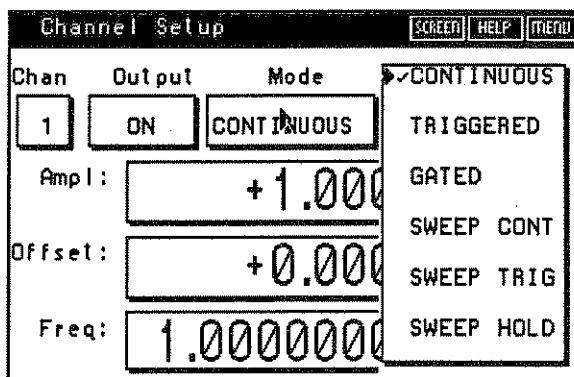

Figure 2-17. Change Modes
8. **Mode Check.** Connect the Arb Channel to the scope as described in step 3. To change the unit's operating Mode, place the mouse pointer in the Mode field and click the left mouse button. Select the triggered mode from the pop-up list by pressing the "soft" key next to TRIGGERED. See figure 2-17. In order to see the triggered sine wave on the scope, change the frequency to 10 kHz by selecting the Freq: field and using the keypad enter 1 EXPONENT 4 ENTER. Adjust the scope and observe a 10 kHz sine wave, triggered at a 1ms rate on the scope. The default trigger source is the Model 295 internal trigger generator.